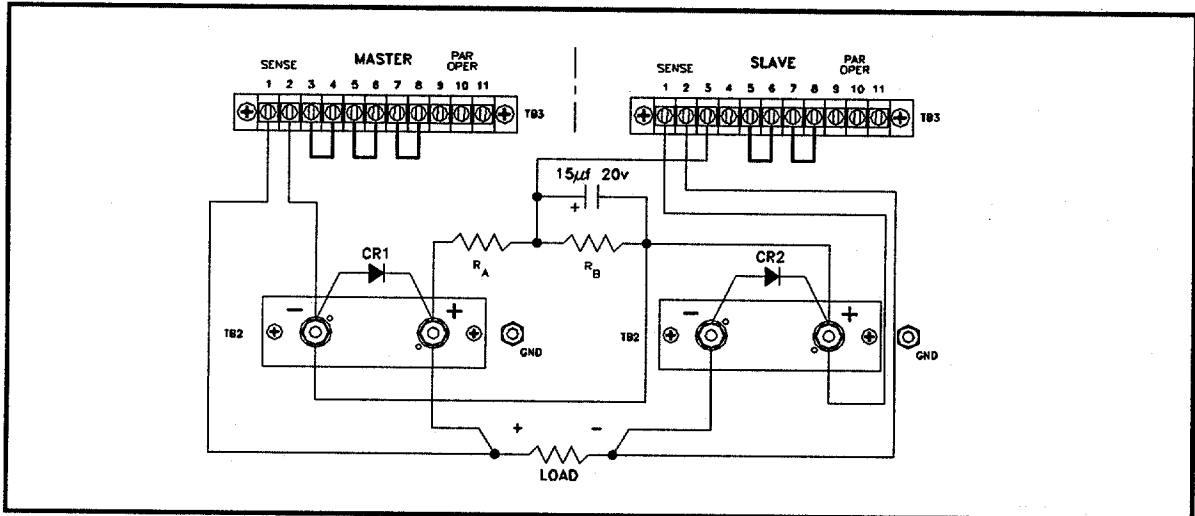

Figure 3-11 Master/Slave Connections Series Operation
3.5.2.....Master/Slave Connection (Figure 3-11)
Assuming two supplies with the same output ratings are to be used, (consult factory for connecting dissimilar units), connect as shown in Figure 3-11. RA and RB are low TC, wire-wound resistors of 5 watts rating or greater. Resistance values for two identical units in series have been calculated for all voltage ranges in the DCR-B2 series, and are summarized in Table 3-3 for each application. See Table 3-2 for resistor values. See Table 3-3 for diode values.